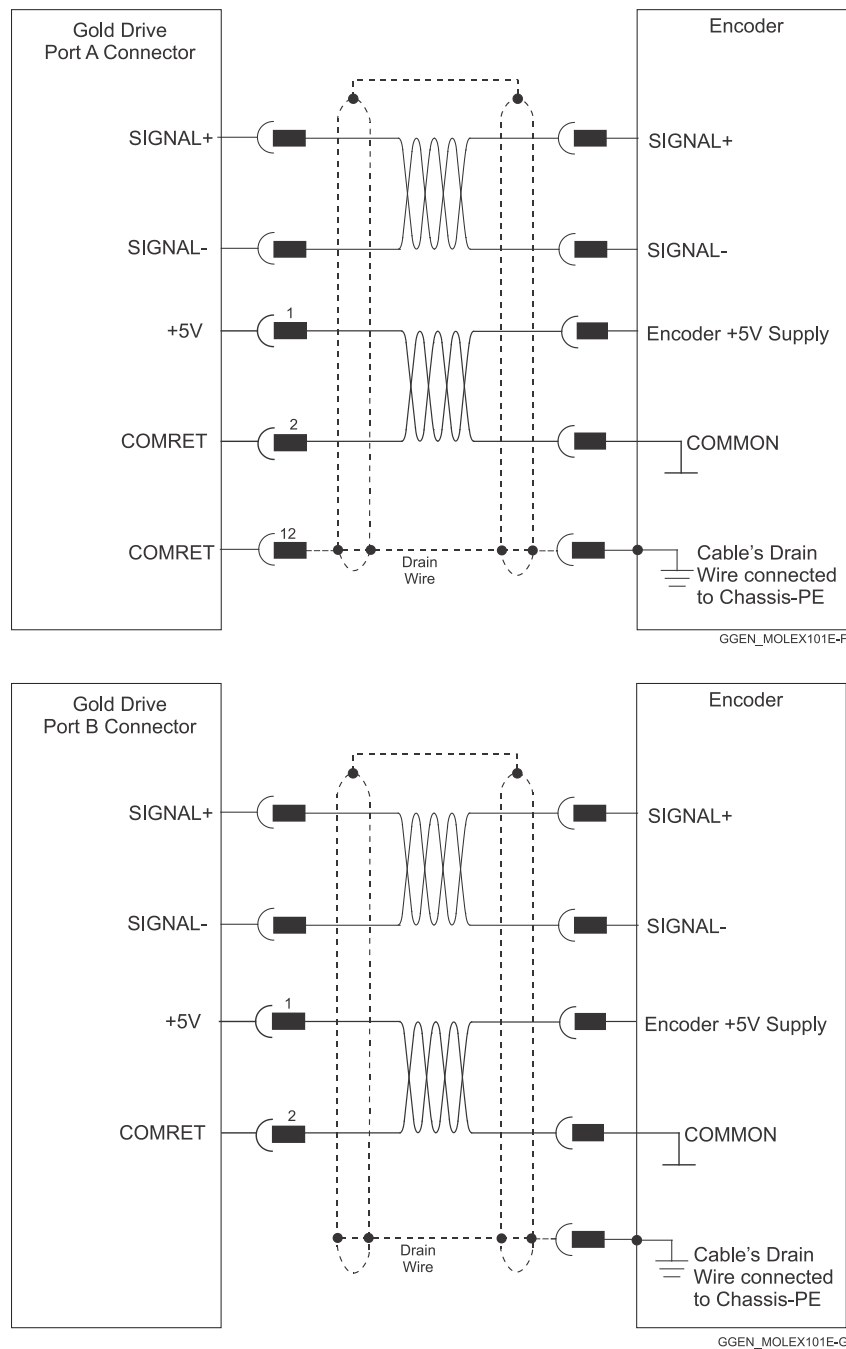

Figure 5: Feedback Port A and B Cable Assemblies
- b. At the motor, connect the feedback cable drain wire to the GND motor chassis terminal of the feedback connector (Figure 5).